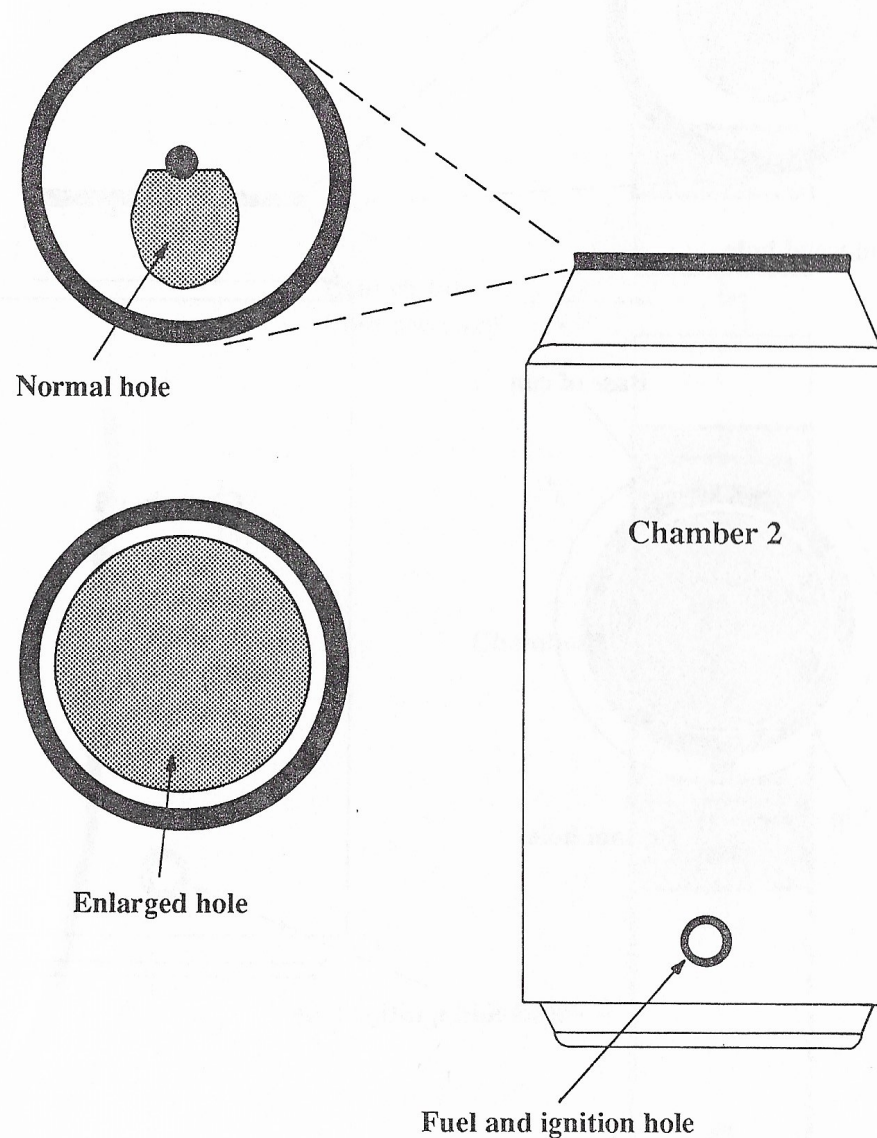

Figure 9
2. Follow step 6 from the basic design, except enlarge the top hole to almost the same diameter as the can. This can is called Chamber 2. (See Figure 9.)